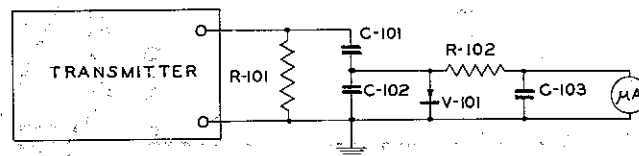
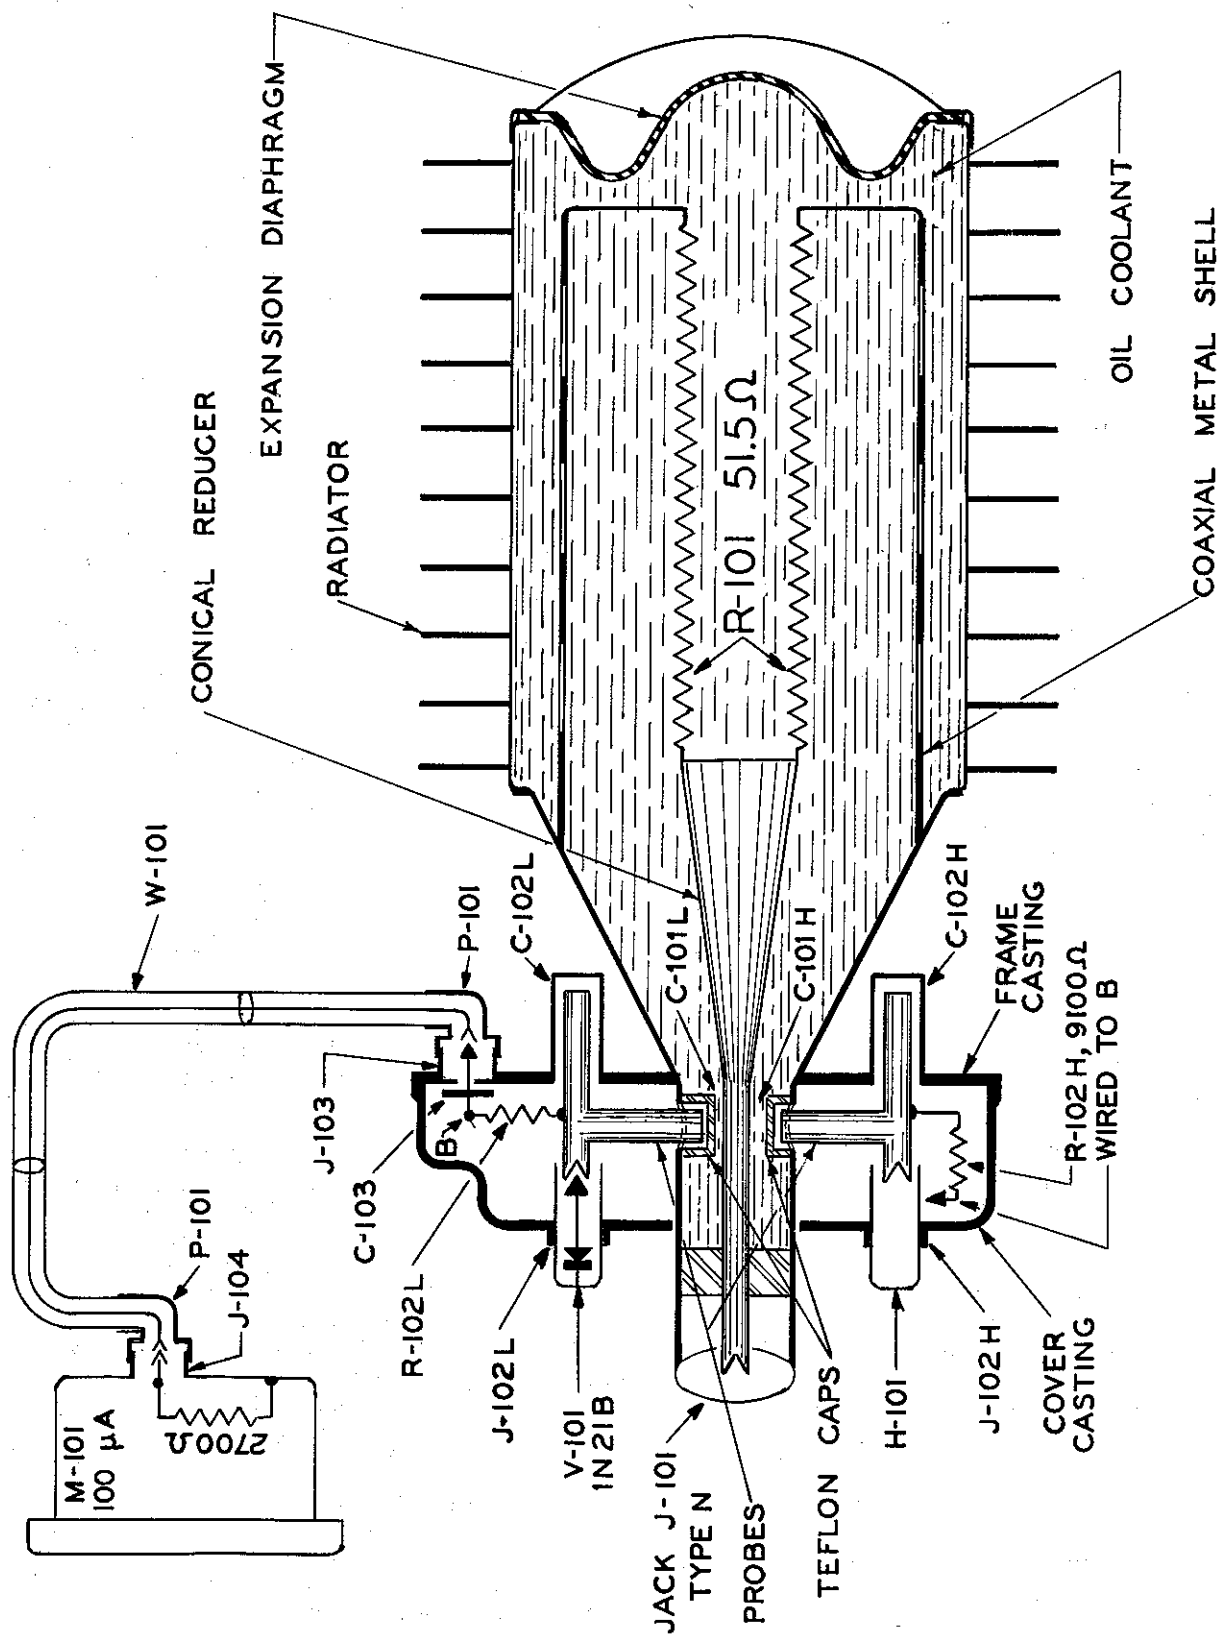
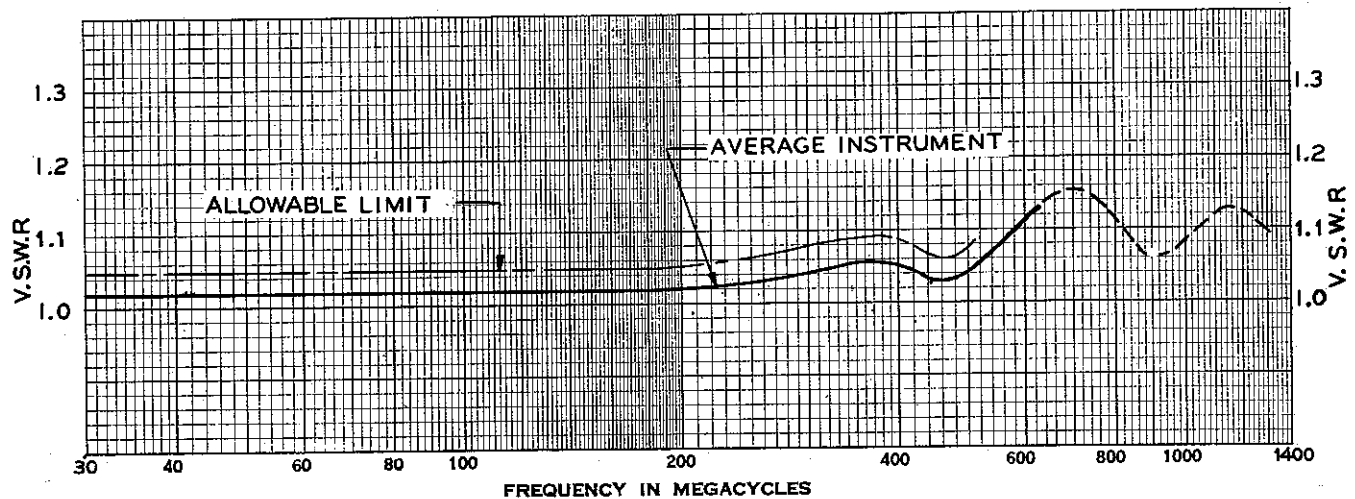

Fig. 2-3. RF Wattmeter Model 61 Simplified Schematic
Fig. 2-4. Schematic Diagram, RF Wattmeter Model 61
Fig. 2-5. Voltage Standing Wave Ratio vs. Frequency — RF Wattmeter Model 61
### 3. VOLTMETER CIRCUIT (See Fig. 2-3 and Fig. 2-4)
4. LOAD RESISTOR CIRCUIT (See Fig. 2-4)
(1) Fig. 2-5 shows the VSWR introduced by the wattmeter when connected to a 51.5 ohm coaxial line. This smooth curve is free from rapid cyclical changes of VSWR with frequency which occur with lossy-line loads.
(2) The average curve represents results of tests on many instruments. All wattmeters will have VSWR's which fall below the "allowable limit" curve. Below 500 mc, the region 350 to 400 mc tends to show highest VSWR values.
(3) Below 150 mc, the VSWR curve is flat. The input impedance at J-101 is practically a pure resistance equal to the d-c input resistance. Value of this resistance is stamped on the top of the voltmeter housing.
(4) From 500 mc to 1500 mc, the VSWR may reach 1.2 at certain frequencies. The wattmeter may be used in this frequency range at full power rating, although the direct-reading wattmeter calibration will be off.
a. The schematic diagram Fig. 2-4 indicates how the parts are arranged in the voltmeter housing, consisting of the FRAME CASTING and the COVER CASTING. The circuit elements are designed into the structure to obtain the necessary rigidity. Heat resistant dielectrics are necessary in this instrument and such parts are made of either teflon or ceramic.
(1) The probes, which form part of C-101L and C-101H, appear on Fig. 2-4 as heavy vertical conductors entering holes in the sheath of the rf load lines. Teflon caps surround the projecting portion of the probes and retain the coolant. These probes consist of a tubular sleeve, and a tip, adjustable by spring-locked threads. This calibrating adjustment serves to vary the capacitance of C-101 by varying the distance between the probe and center conductor.
(2) The shunt capacitors C-102L and C-102H are each coaxial, consisting of an outer brass tube electrode, a ceramic sleeve dielectric and a center beryllium copper electrode. The spring center contact for the crystal is integral with this center electrode.
(3) RESISTORS R-102L and R-102H are 1/2 watt conventional metalized resistors.
- c. The time constant effect, which causes the sensitivity to decrease with frequency near the low end of the range. The time constant is the product of R-102 and C-102 in Fig. 2-3. This product must be made sufficiently high to maintain a full charge on C-102 between successive positive peaks of the input radio frequency.
c. AVOID operation in the "J-101 UP" position, i.e. resting on the expansion diaphragm cap at the rear of the radiator. In this position, any air within the coolant space will collect around the voltmeter probes (Fig. 2-4) and a change of dielectric constant in this region will affect calibration.